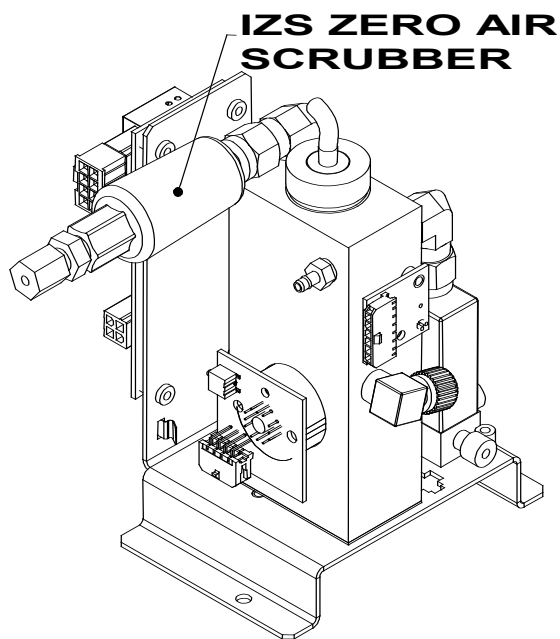

Figure 5-16. IZS O₃ Generator Zero Air Scrubber Location
3. The IZS zero air scrubber is attached to the brass elbow inlet fitting on the top of the O₃ generator assembly. See Figure 5-16.